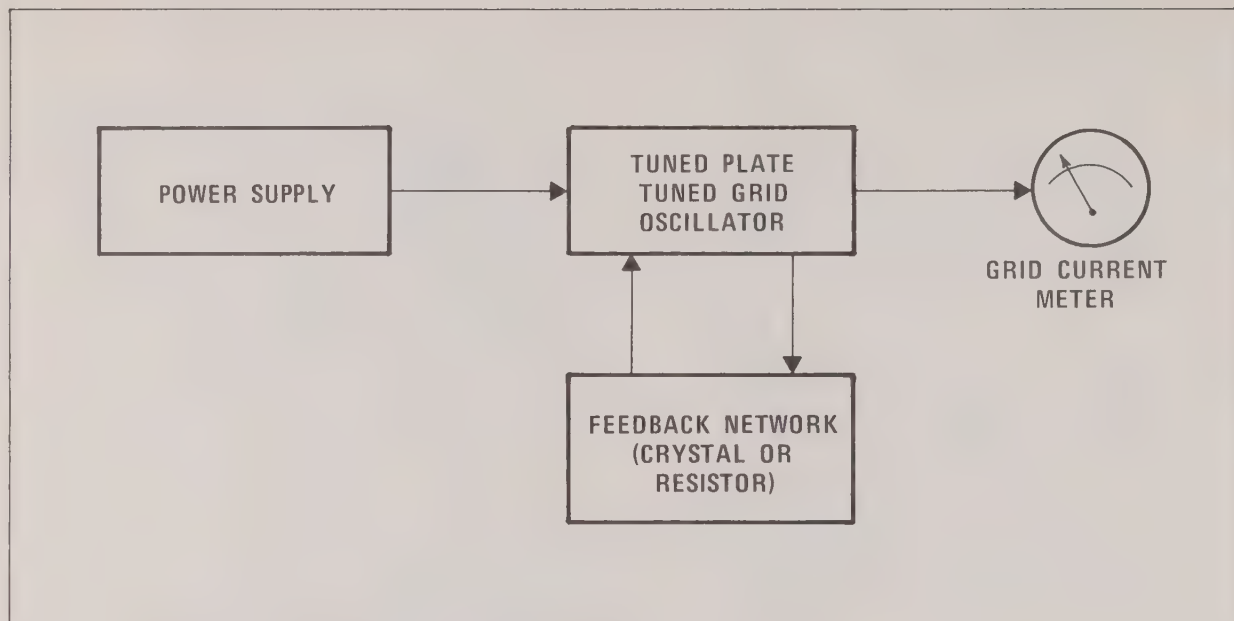

Figure 4. Block Diagram Of Crystal Impedance Meter Model 459B.
g. **Block Diagram** — Crystal Impedance Meter Model 459B measures the equivalent impedances of a communication piezoelectric crystal in the frequency range of 0.8 to 15.0 mc. The equipment consists of a single r-f pentode tube oscillator, a feedback network and a conventional power supply (Figure 4). The crystal under test or a decade resistor can be made a part of the feedback network. The magnitude of the voltage oscillations of the tube is indicated by GRID CURRENT meter.